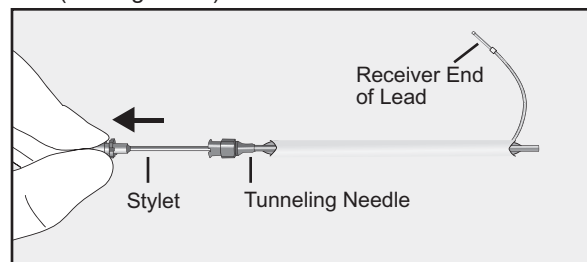

Figure 29: Withdraw the Tunneling Needle Stylet
3. Identify an insertion point for the Tunneling Needle. To reduce the risk of the receiver becoming exposed, the insertion point must be farther from the intended termination site for the receiver, preferably  $\geq 2$  cm but no more than 11.5 cm from the first incision site (see Figure 29).
7. Withdraw the Tunneling Needle Stylet, leaving the needle in place (see Figure 29).